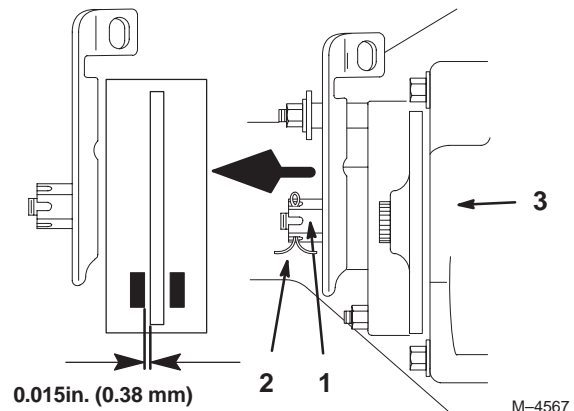

Figure 30
3. To adjust the brake remove the cotter pin and loosen the brake adjusting nut slightly (Fig. 30).
4. Carefully insert a 0.015 inch (0.38 mm) feeler gauge between the outer brake pad and rotor disk (Fig. 30).